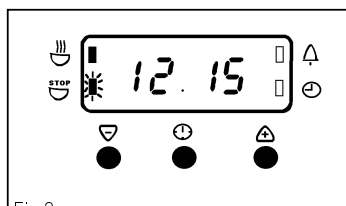

Fig.8
- v) To set the 'End Time'. Press the Selector Control button until the 'End Time' indicator neon ( $\text{☹}$ ) flashes. Press the increase control ( + ) until the required stop time is displayed, e.g. 12.15 p.m. as Fig. 8. If necessary press the decrease control ( - ) until the correct time interval is achieved.